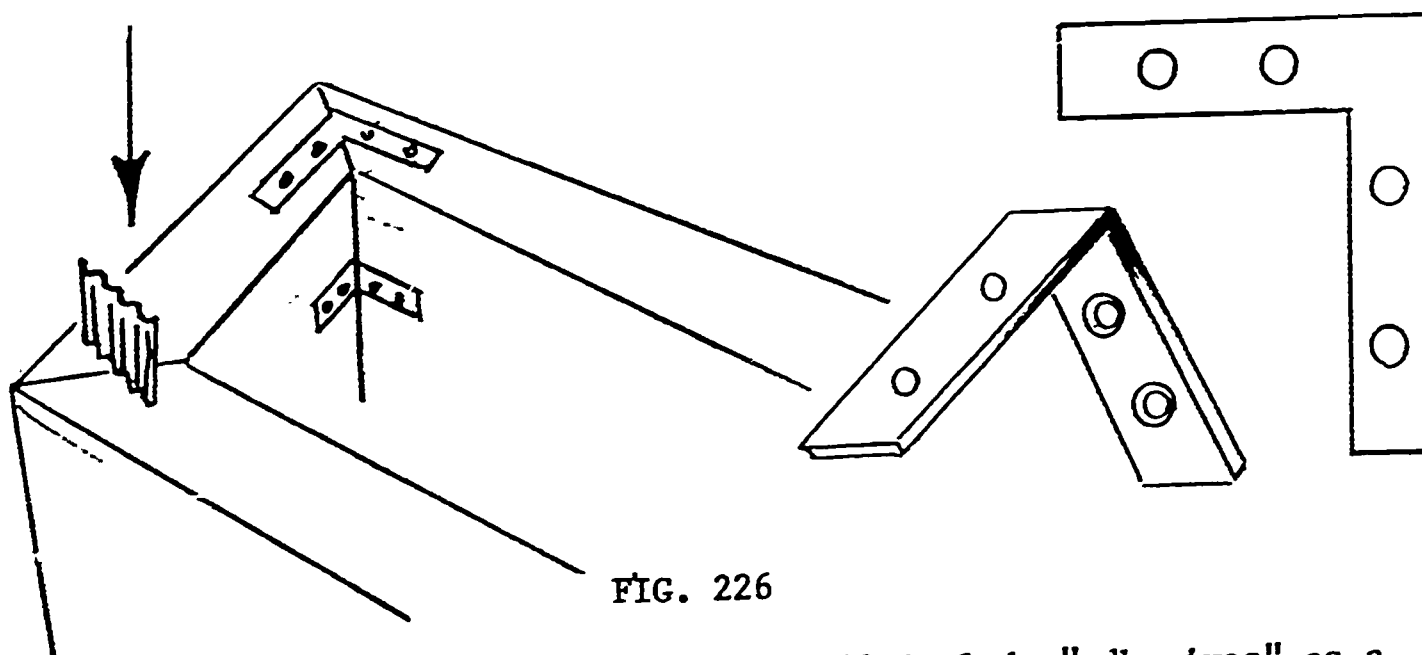

FIG. 226
1. Corner irons and corner brackets are the most common type of special joining devices. See figure 226. One needs only to glance in a well stocked hardware department to see the wide variety of such items. Brackets and irons are used to strengthen corners and butt joints. Where the bracket shows, a fancy type should be used.